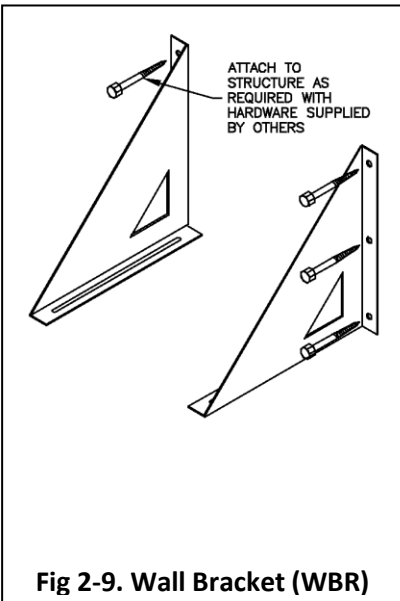

Fig 2-9. Wall Bracket (WBR)
2. Anchor the wall brackets to the wall or additional field fabricated support members accordingly. Design support member and fasteners in accordance with good engineering practices to suit each specific application. Consult structural engineer regarding design and/or modification of buildings or structures to accept the given loads. Do not anchor to combustible material. See Fig 2-9 to 2-11.